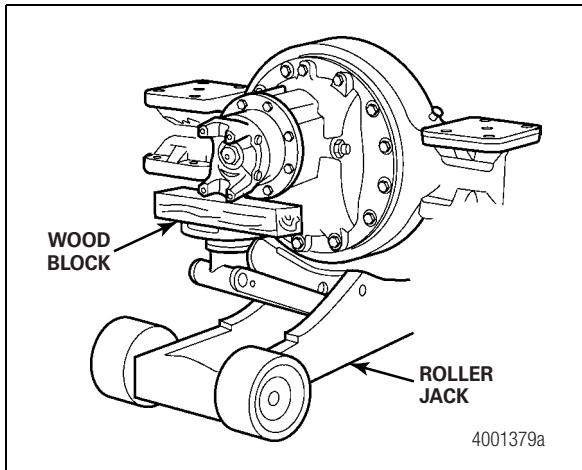

Figure 3.3
11. Place a hydraulic roller jack under the differential carrier to support the assembly. Figure 3.3.